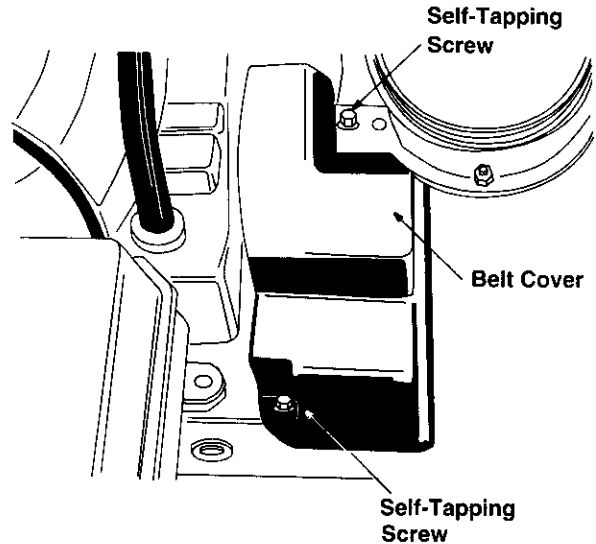

Figure 25
- Remove the plastic belt cover on the front of the engine by removing two self-tapping screws. See Figure 25.
- Remove the plastic belt cover on the front of the engine by removing the two self-tapping screws. See Figure 25.
- Remove four screws from the frame cover underneath the snow thrower. See Figure 25.